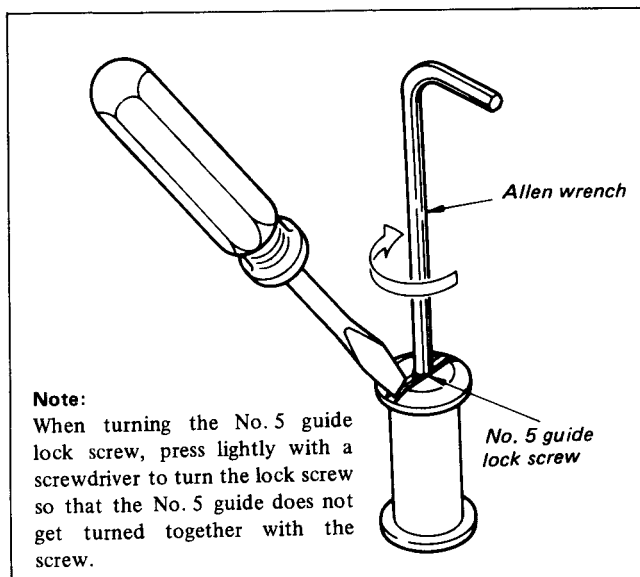

Fig. 4-5.
- 3) Loosen No. 5 guide lock screw ①, turn No. 5 guide so that the entrance side waveform is almost flat, as shown in the figure below, and tighten lock screw ①. (See Fig. 4-5)